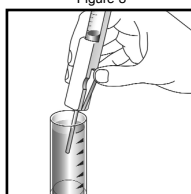

Figure 4
4. Hold the Titrettor with the sample pipe in the sample. Press the control bar firmly, but briefly, to pull in a small amount of sample. The contents will turn **PINK** (fig. 4).
5. Press the control bar again to draw another small amount of sample into the ampoule (fig. 4).